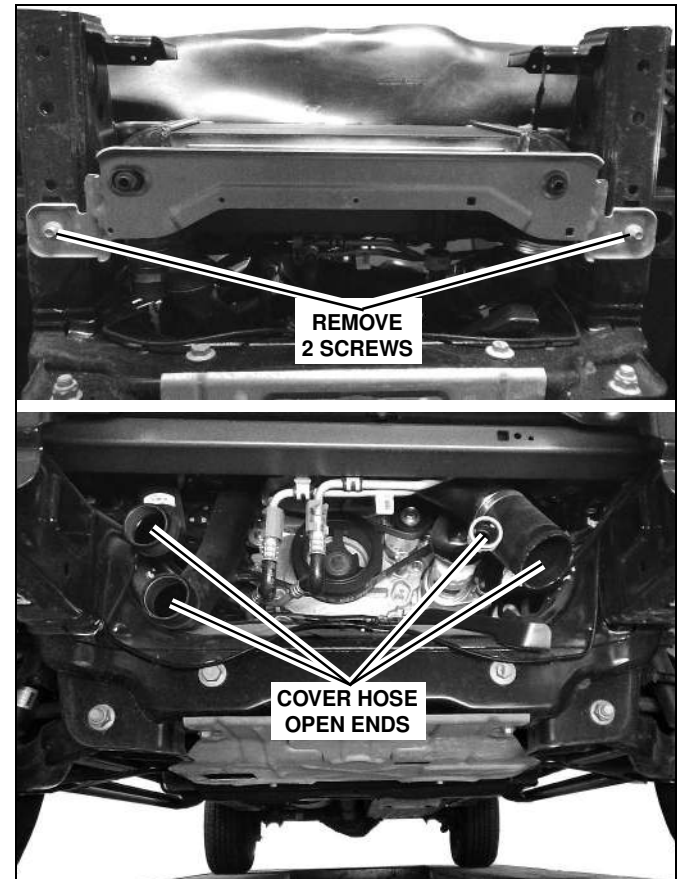

Figure 22
11. Remove the 2 screws for the lower intercooler bracket, then remove the intercooler bracket and intercooler from the truck. Cover the open ends of hose to prevent any contaminants from entering during remainder of subframe install. (See Figure 22)